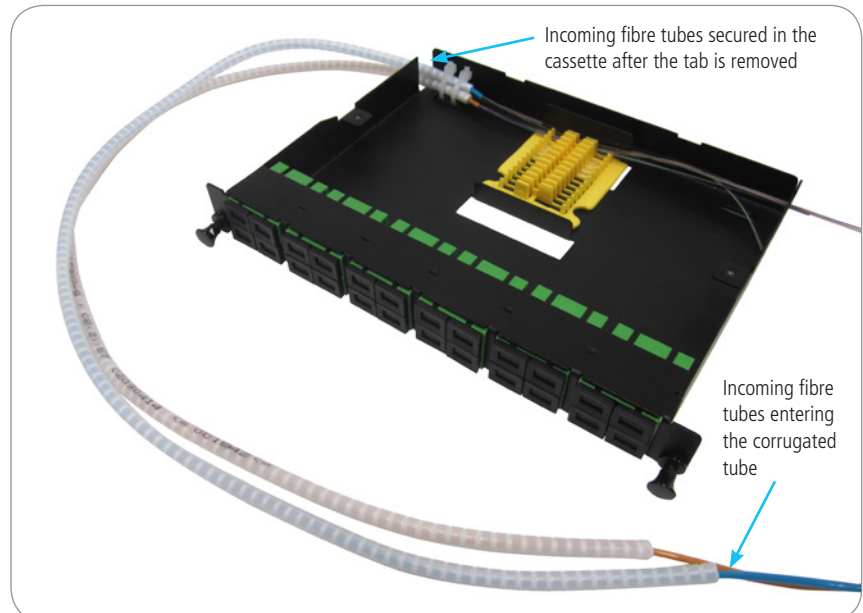

Figure 7.
- Slide the corrugated fibre protection tubing over the exposed fibres and tube, till they are level with the end of the tubes. Fasten the tubes to the splice cassette as shown in **Figure 7** using 2 cable ties.